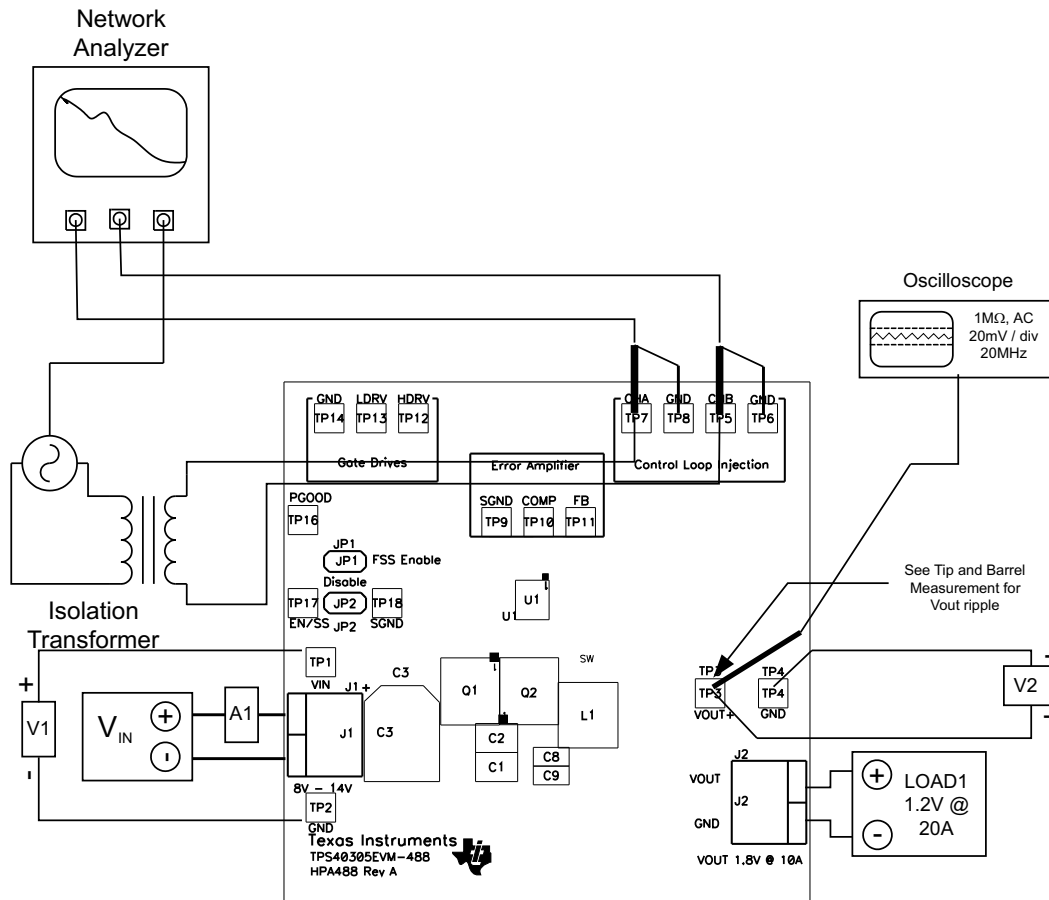

Figure 5-3. Control Loop Measurement Setup
The TPS40305EVM-488 provides four test points (two signal and two ground) for measuring the control loop frequency response. This allows the user to measure the actual module loop response without modifying the evaluation board. A transformer isolated signal up to 30 mV can be injected between TP5 and TP7. The injected signal amplitude can be measured by the AC coupled amplitude at CHA (TP7) and the resulting output voltage deviation can be measured at CHB (TP5). See Figure 5-3 for additional detail.
2. Connect a 1-kHz to 1-MHz isolation transformer to TP5 and TP7 as shown in Figure 5-3.
3. Connect input signal amplitude measurement probe (channel A) to TP7 as shown in Figure 5-3
4. Connect output signal amplitude measurement probe (channel B) to TP5 as shown in Figure 5-3.
5. Connect ground lead of channel A and channel B to TP6 and TP8 as shown in Figure 5-3